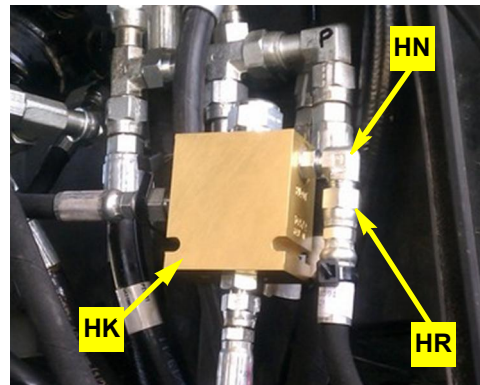
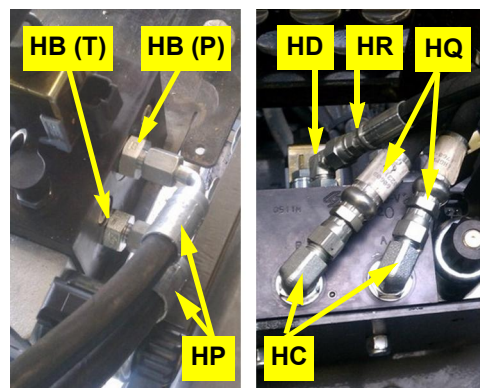

Figure 10a: Load sense hose (to steering block) installed at load sense valve
Figure 10b (left and right): Pressure and tank hoses (left) and load sense and steering hoses (right) at steering block
- a. Install the load sense hose **HR** between adapter **HN** in load sense valve **HK** (Figure 10a) and adapter **HD** in the **LS** port of the hydraulic steering block (Figure 10b, right image).
- b. Connect the pressure and tank hoses **HP** to adapter fittings **HB** in the **P** and **T** ports of the hydraulic steering block (Figure 10b, left image).
- c. Connect the steering hoses **HQ** to adapter fittings **HC** in the **A** and **B** ports of the hydraulic steering block (Figure 10b, right image).